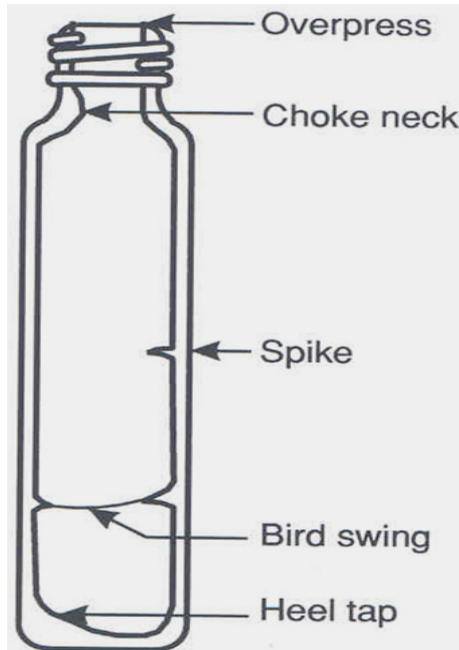

Figure 6.4 Flat bottles
- 3) Optical devices inspect for stones, blisters, checks, bird swings, and other blemishes and irregularities by rotating the container past a bank of photocells (Figure 6.4).
Flat shapes (Figure 6.4) inherent problems.